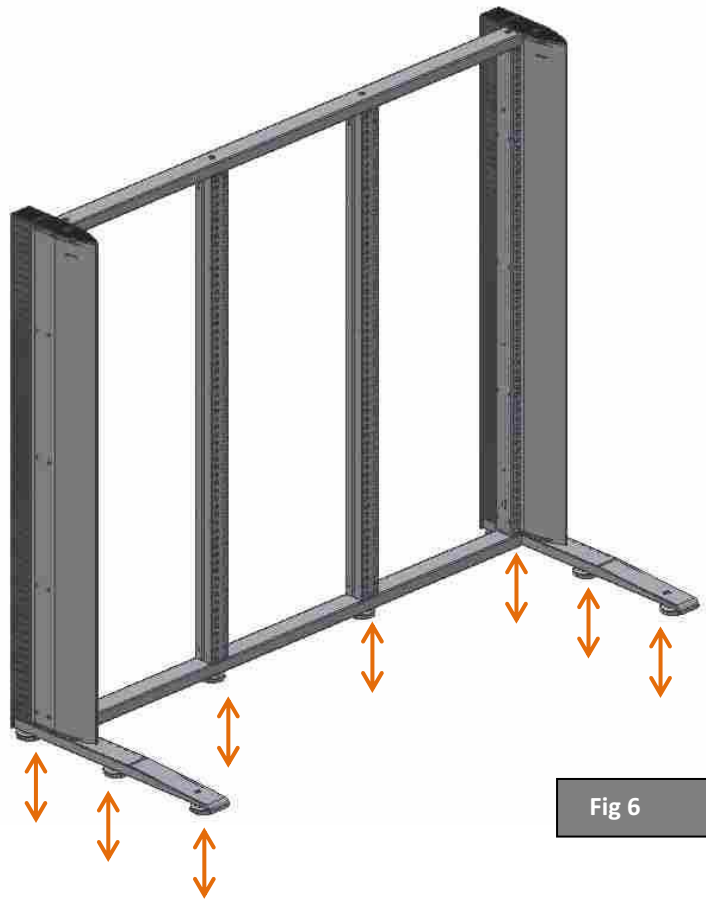

Fig 6
STEP 4 – Level the whole structure using the **levellers** of the **frame** and **sides** (Fig. 6)